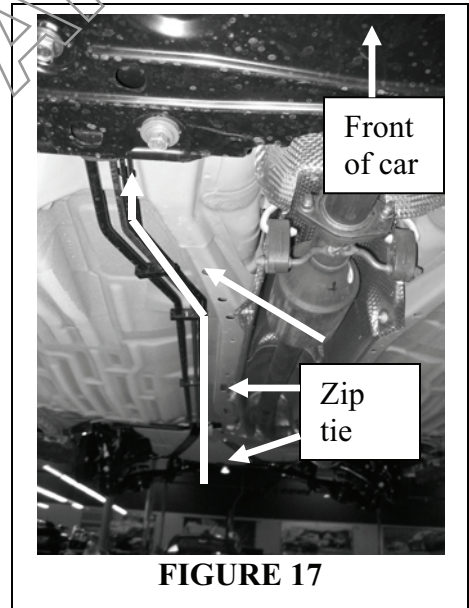

FIGURE 17
30. Tape off hose ends with masking tape. Slide line through frame rails and route as shown in **FIGURES 17 – 19** (run along existing lines or run through tunnel in underbody). Use two zip ties to secure the line to the frame rails.
32. Zip tie the line to existing lines (along which the nitrous line is run) seen in **FIGURES 17 - 19**, Attach a zip tie about every 10" or as otherwise necessary.